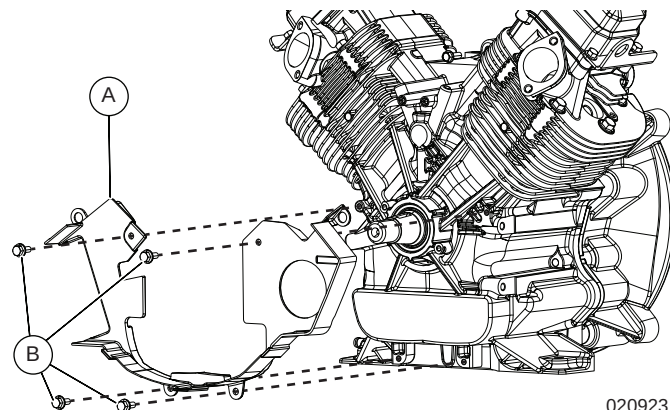

Figure 12-13. Install Backing Plate onto Crankcase
1. See Figure 12-13. Install backing plate (A) onto PTO side of engine.